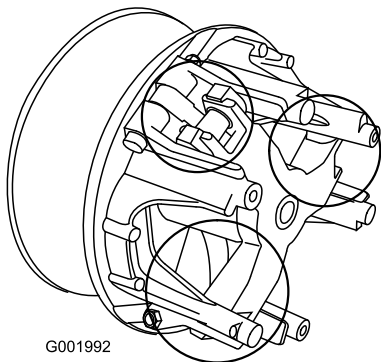

Figure 58
5. Lubricate the moving parts in the areas circled in Figure 58 using Toro Dry Lubricant Spray, available through your Authorized Toro Dealer or Distributor.